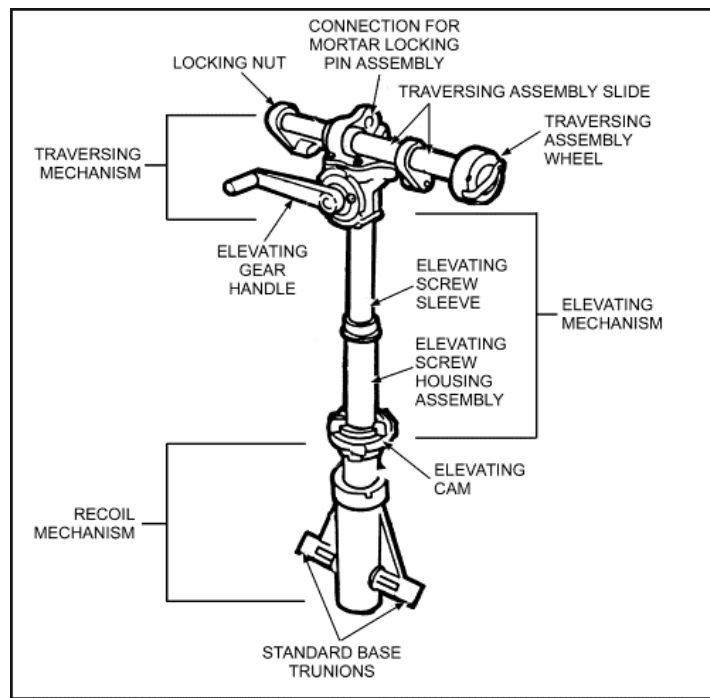
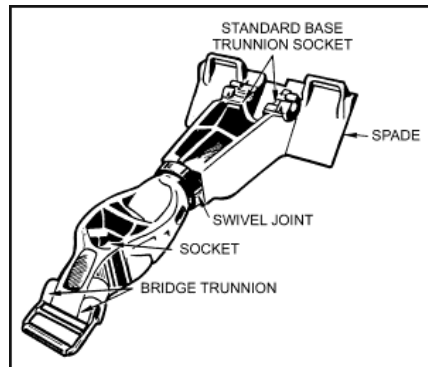

Figure 6-4. Standard assembly with elevating, traversing, and recoil mechanisms.
Figure 6-5. Bridge assembly.
a. **Standard Assembly.** The standard assembly consisting of the elevating, traversing, and recoil mechanisms connects the cannon and bridge assembly or standard support on the turntable (Figure 6-4). It is held to the bridge assembly by two trunnions that fit into sockets on the bridge spade or standard support assembly. The connection for the mortar locking pin assembly on the standard assembly is fastened to the coupling and sight mount assembly by the mortar locking pin assembly. Both the elevating and traversing screws are enclosed.
- (1) The elevating gear handle, located in front of the mortar at the top of the standard assembly, is used to elevate or depress the mortar throughout the low or high ranges of elevation. An elevating screw housing assembly in the lower part of the standard assembly makes possible the two ranges of elevation. The desired high or low range is selected by using the elevating mechanism cam located just above the recoil mechanism on the standard assembly.
- (2) The elevating mechanism cam (Figure 6-4) locks the elevating screw housing assembly in its low or high range position. This assembly cannot be locked in any intermediate position.
- (3) The traversing mechanism (Figure 6-4) consists of an enclosed screw and bearing located at the top of the standard assembly. It is operated by turning the traversing crank on the left side of the mechanism.
(4) The recoil mechanism consists of a series of springs mounted in the lower section of the standard assembly. They are designed to ease the downward shock of firing and to return the mechanism to the prefiring position.
b. **Bridge Assembly.** The bridge assembly (Figure 6-5) consists of two pieces joined by a swivel joint.